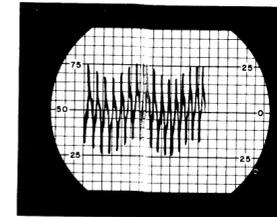

Figure 3.
(2) Adjust the 1000 cps input signal level for 3 volts and note the resultant combined deviation of the 1000 cps modulation and tone signal modulation on the oscilloscope.
(3) Adjust the IDC control on the transmitter for a peak-to-peak combined signal of 10 squares, equivalent to full 5 kc as shown in figure 3.